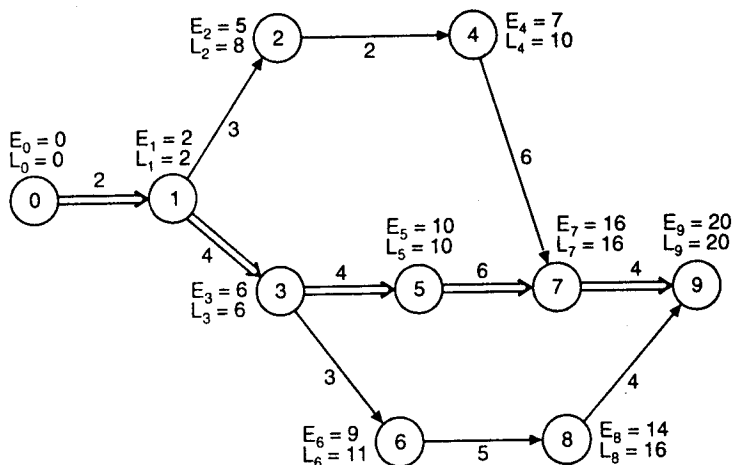

Fig. 25.68
To illustrate the resource smoothing operation, we consider the network shown in Fig. 25.68 (see page 367). For simplicity, only kind of resources, i.e., crew size, has been considered.
**Step 2.** In the time scaled version of the network (which is also called *squared network*), first of all the critical path is drawn along a straight line. Then the non-critical paths are added as shown in Fig. 25.68.